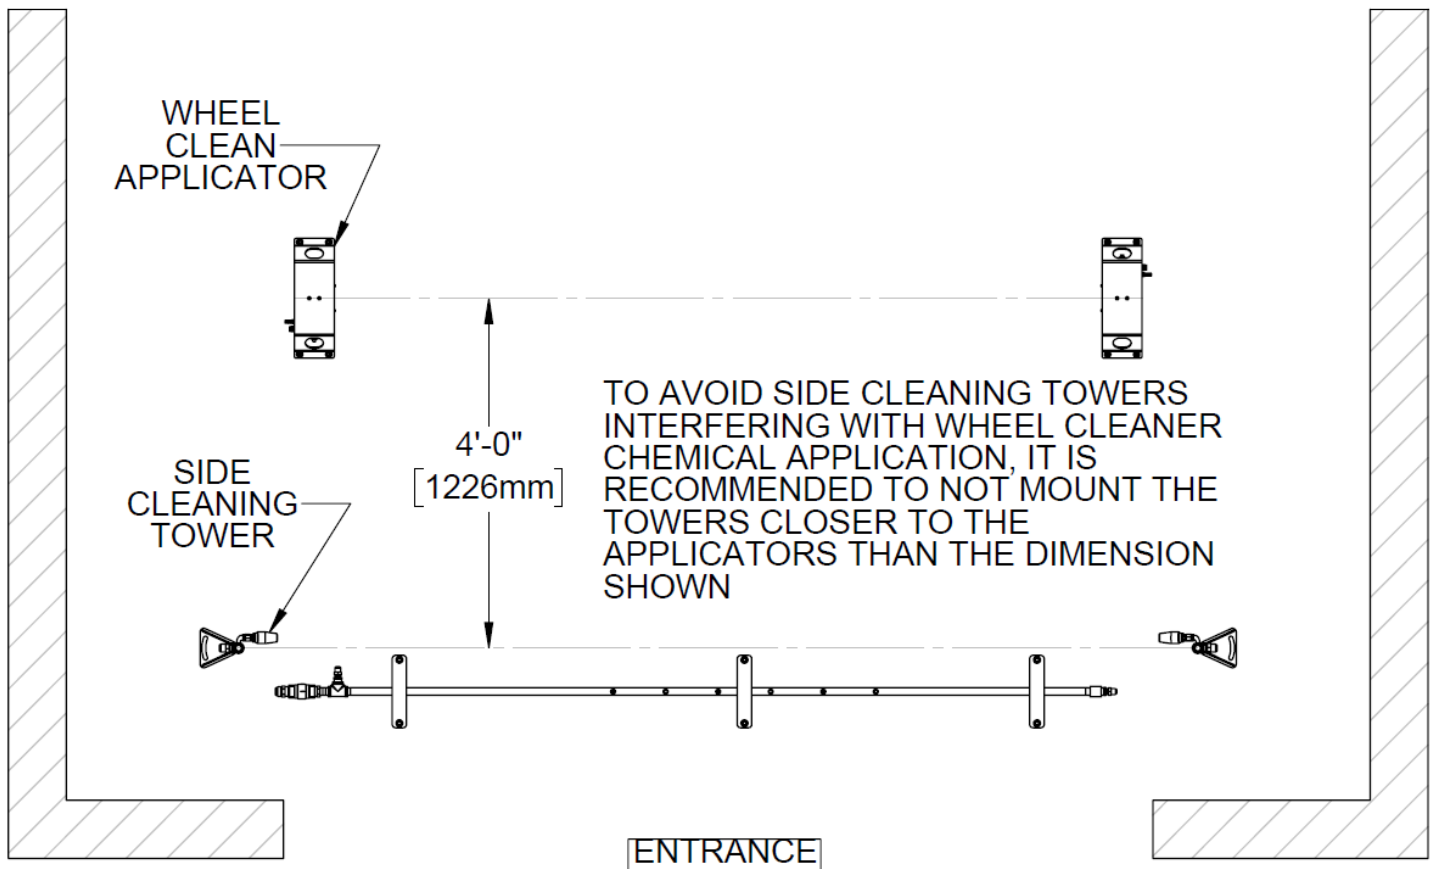

Figure 126 - Side Cleaning Towers Installed with Wheel Cleaner Applicators
- NOTE: If machine employs Low Profile Cleaning Towers ensure the Wheel Cleaner Applicators are mounted at least 4' (1.22m) from the towers to avoid the wheel clean chemical from being washed away prematurely. See Figure 126.